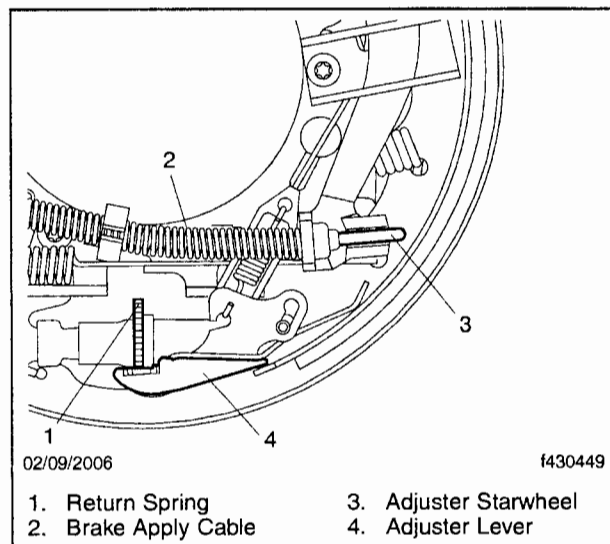

Fig. 4, Detach the Apply Cable
8. Detach the parking brake cable and spring from the end of the brake lever. See **Fig. 4**.